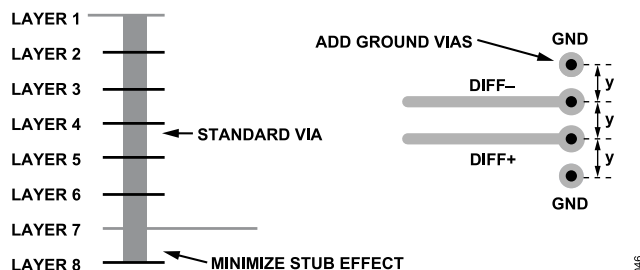

Figure 82. Minimizing Stub Effect and Adding Ground Vias for Differential Stripline Traces
- If using standard vias, use the maximum via length to minimize the stub size. For example, on an 8-layer board, use Layer 7 for the stripline pair (see Figure 82).
- For each via pair, place a pair of ground vias adjacent to them to minimize the impedance discontinuity (see Figure 82).